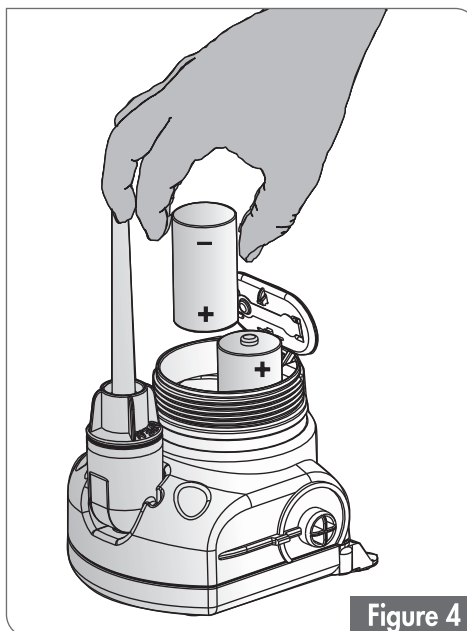

Figure 4
- a. Insert the batteries (C 1.5 VDC) according to Figure 4.